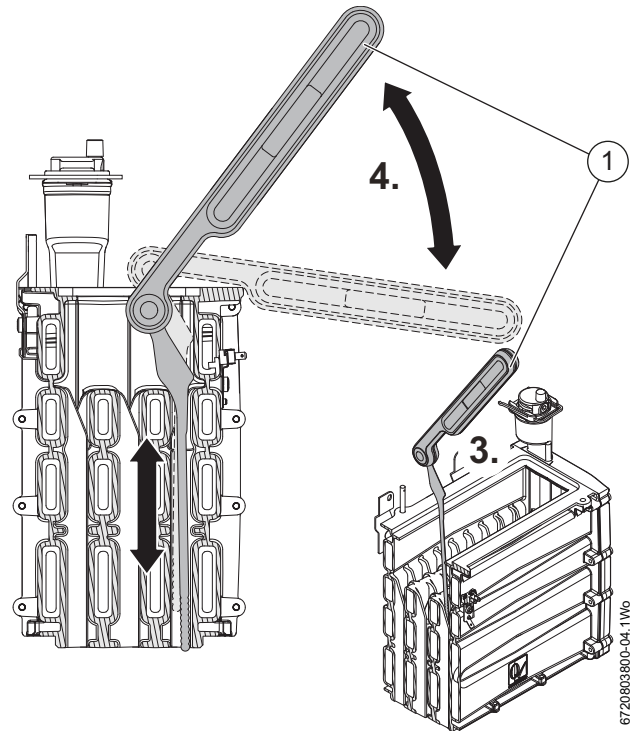

Fig. 80 Cleaning the front channels
3. Orient the cleaning tool (2) as shown in figure 80 and insert the tool into the front channel for cleaning.